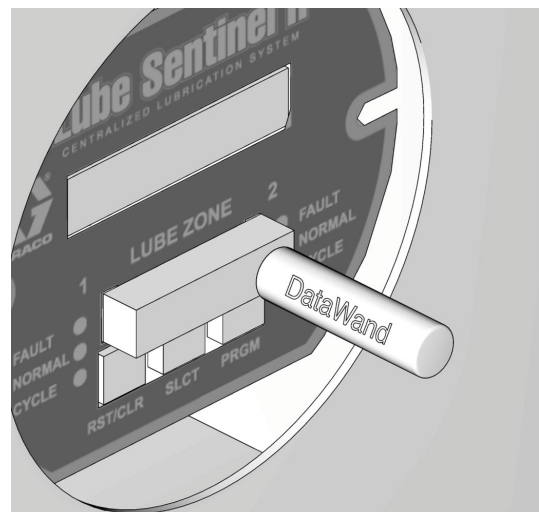

FIG. 8
3. Place the magnetic Datawand over the Safety Set target above the desired button to activate the function buttons (FIG. 8).